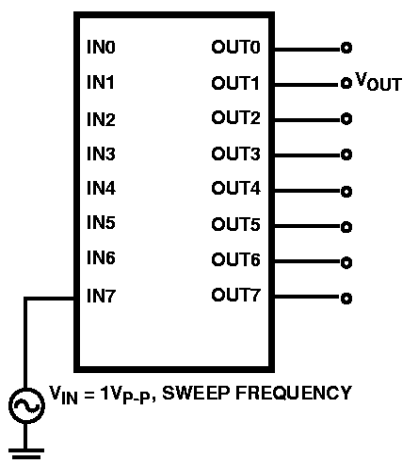
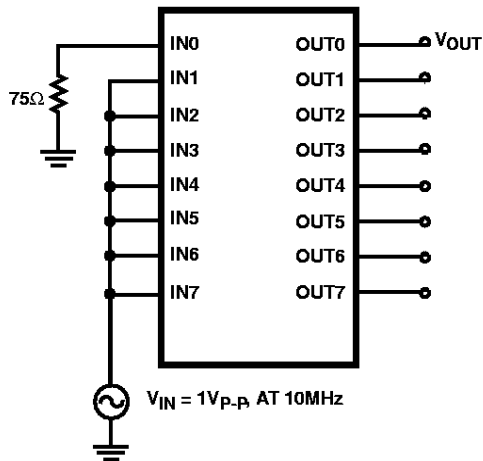

FIGURE 6. -3dB BANDWIDTH (NOTES 7-10)
FIGURE 9. ALL HOSTILE CROSSTALK (NOTES 10, 15, 17-19)
4. See AC Test Circuits (Figure 6 through Figure 9).